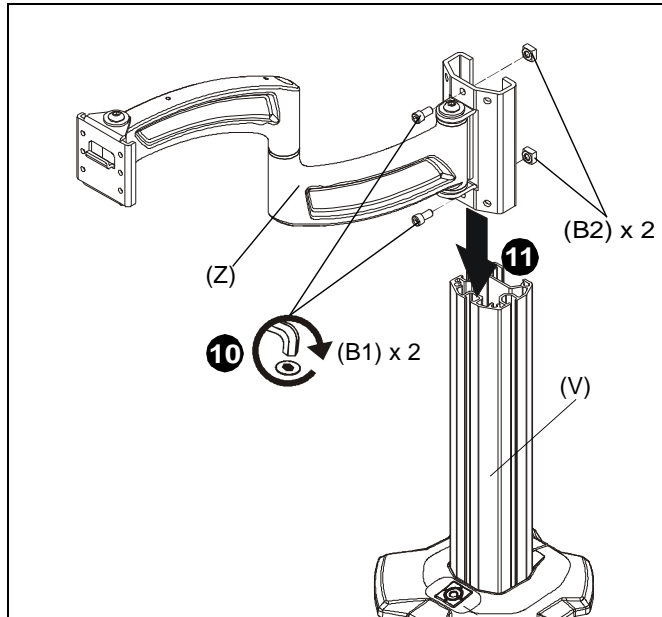

Figure 5
10. Loosely install two 1/4-20 x 1/2" socket head carriage screws (B1) through mounting holes on column arm (Z) bracket and into 1/4" square nuts (B2). (See Figure 5)
11. Slide column arm (Z) bracket into column (V) until desired mounting height is reached. (See Figure 5)